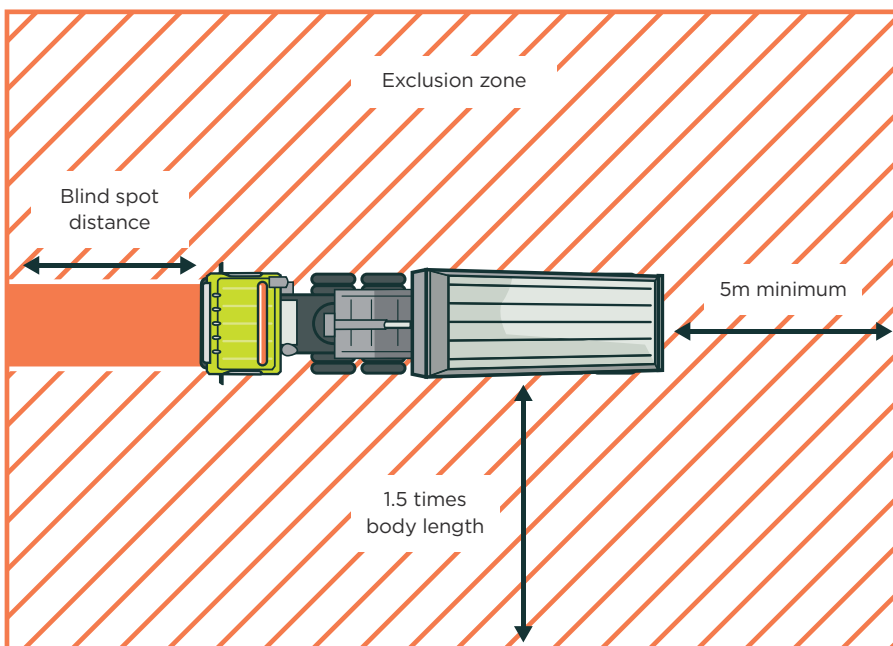

FIGURE 2:
- Calculate the appropriate distance within the exclusion zone (such as the blind spot distance) based on the type of vehicle used for tipping. See Figure 2 for recommended minimum distances for a truck fitted with blind spot mirrors or cameras.